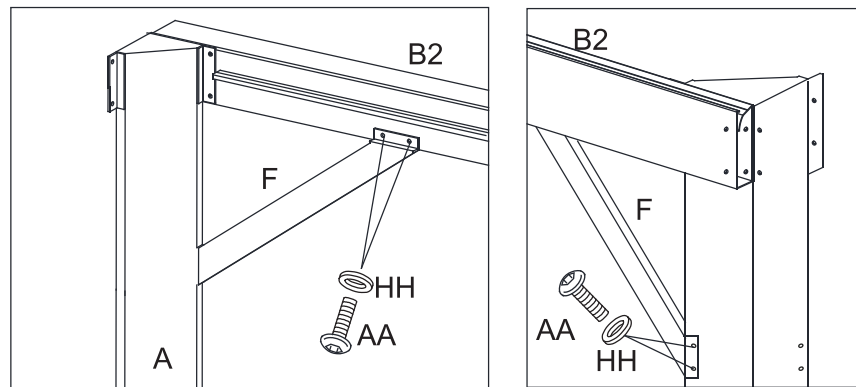

Figure 4.3
4.3. Attach Support Bars (F) to Corner Post (A) and to Lintels (B1/B2) with Bolts (AA) and washer (HH). See Figure 4.3.